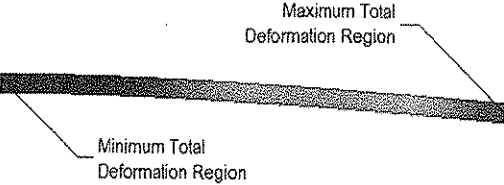

Figure 9-30 The view of the model on choosing the Right option from the shortcut menu
3. Right-click on the Graphics screen and then choose **View > Right** from the shortcut menu displayed to orient the model, as shown in Figure 9-30.